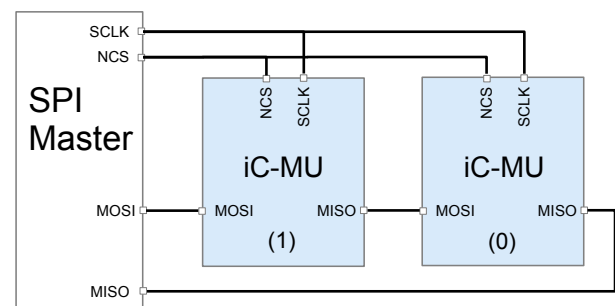

Figure 23: Example configuration with 2 Slaves
Using the **ACTIVATE** command, the register and sensor data channels of the connected slaves can be switched on and off. The command causes all slaves to switch their RACTIVE and PACTIVE registers between MOSI and MISO and set them to 0 (slaves in daisy chain connection, Figure 23). The register and
An example for a daisy chain wiring of 2 SPI slaves is given in Figure 23. In order to do register communication (**Read REGISTER (single)**, **Write REGISTER (single)**, **REGISTER status/data**) with e.g. slave (1) the register communication has to be enabled explicitly for this slave and disabled for slave (0) with command **ACTIVATE** and parameter **RACTIVE**.